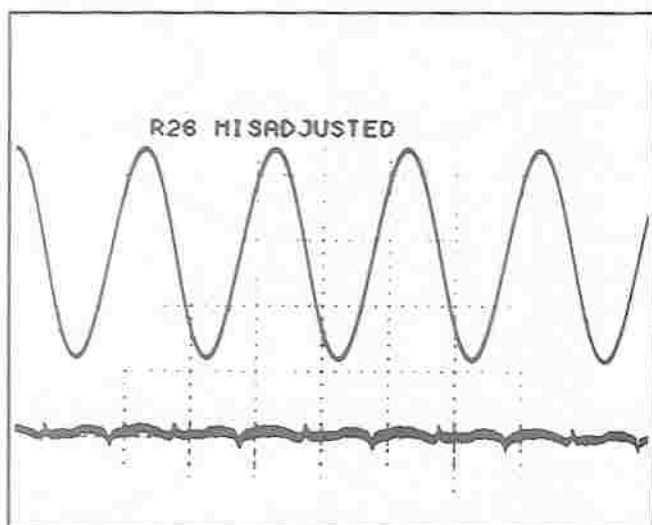
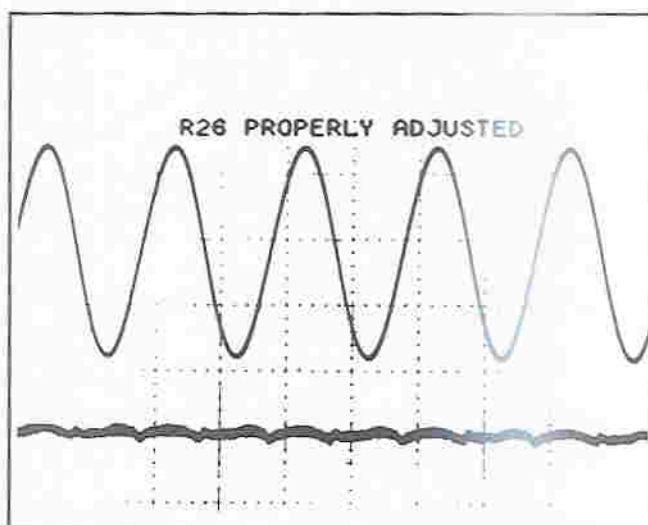

Figure 8 Results with Improperly Adjusted Bias
Figure 9 Results with Properly Adjusted Bias
Shown in Figure 8 is a distortion waveform resulting from an improperly adjusted R26. Notice the pronounced spikes at the crossover point in the waveform. The trace in Figure 9 shows the waveform with less pronounced spikes after R26 is properly adjusted.
5. Find R26 on the component layout in Figure 12. Rotate the shaft of R26 slowly clockwise until the spikes are minimized in the distortion waveform as shown in Figure 9.